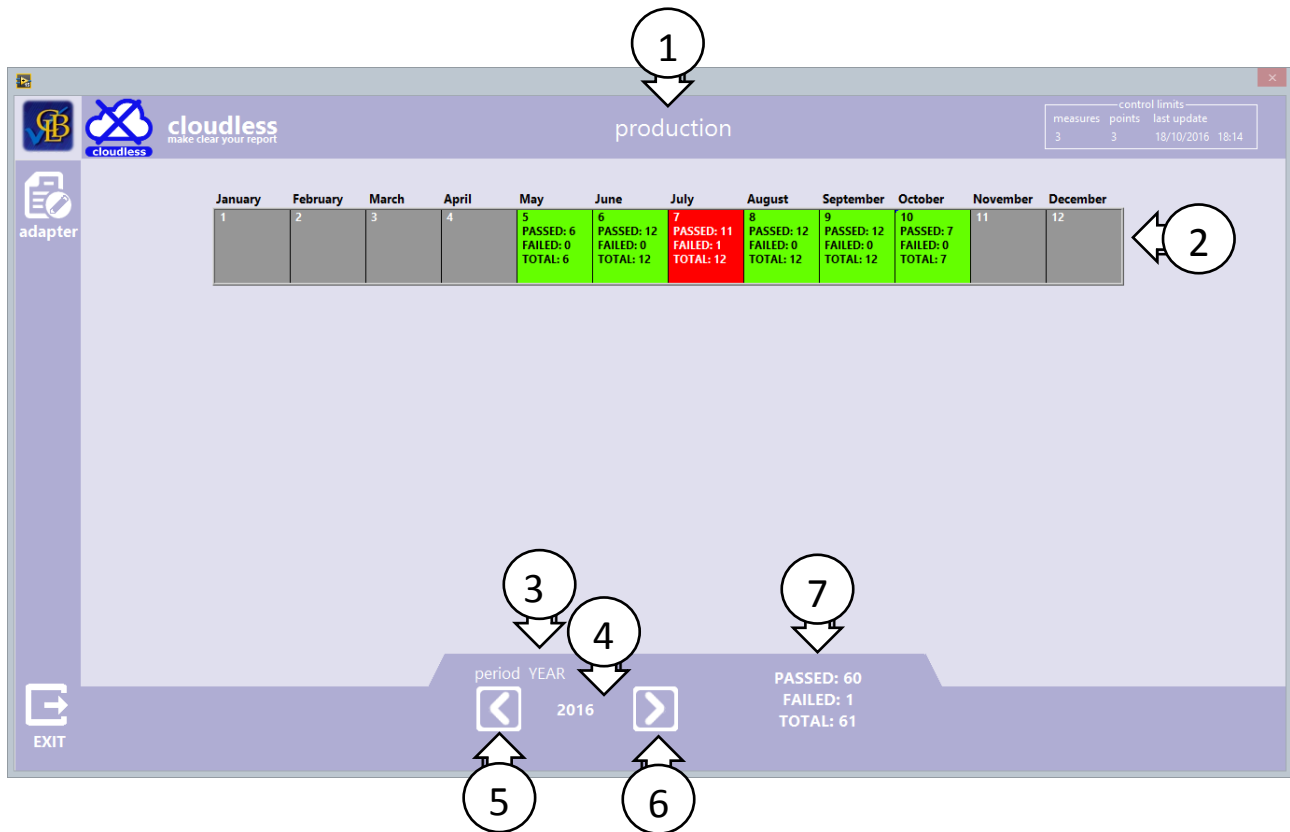

Figure 13: production sub page
The production sub page (Figure 13) is displayed selecting the item “production” from the field 1
- a. YEAR: to display the production month by month for the selected year (Figure 13)